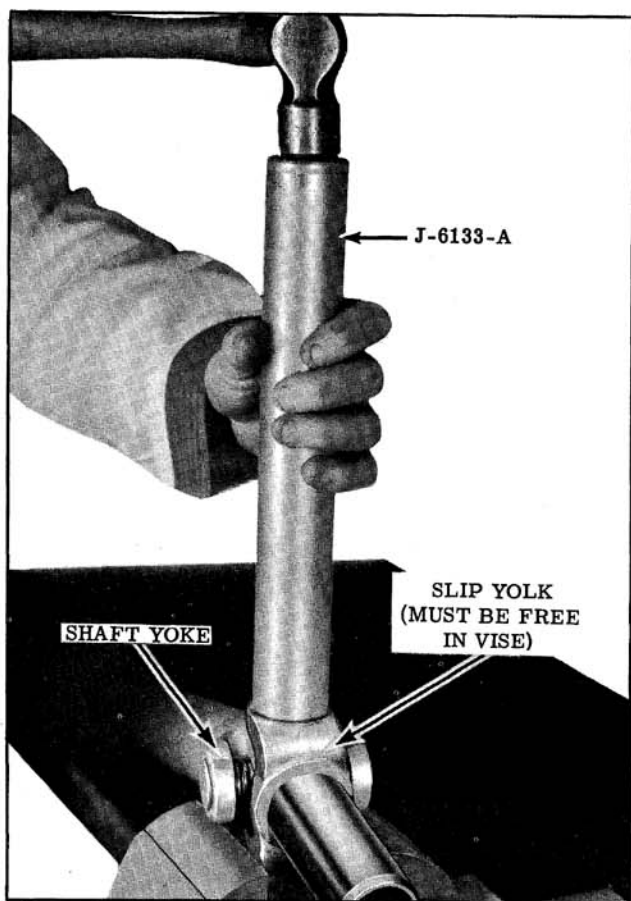

Fig. 10-62 Partial Bearing Removal
3. Apply force on yoke around bearing. (Fig. 10-62) This will drive the slip yoke down, causing spider to force bearing partially out of the yoke.